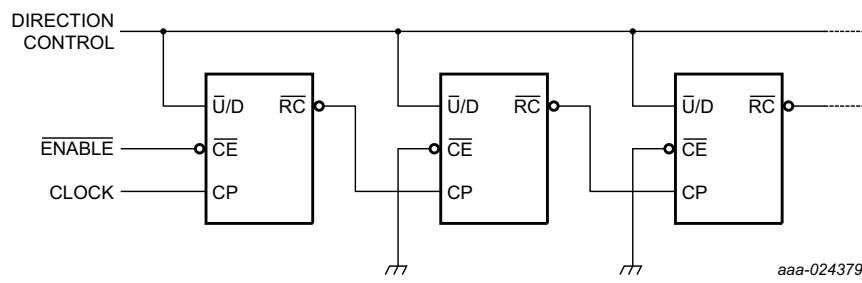
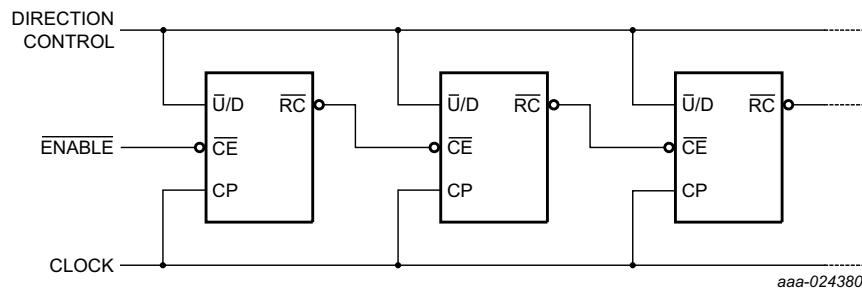
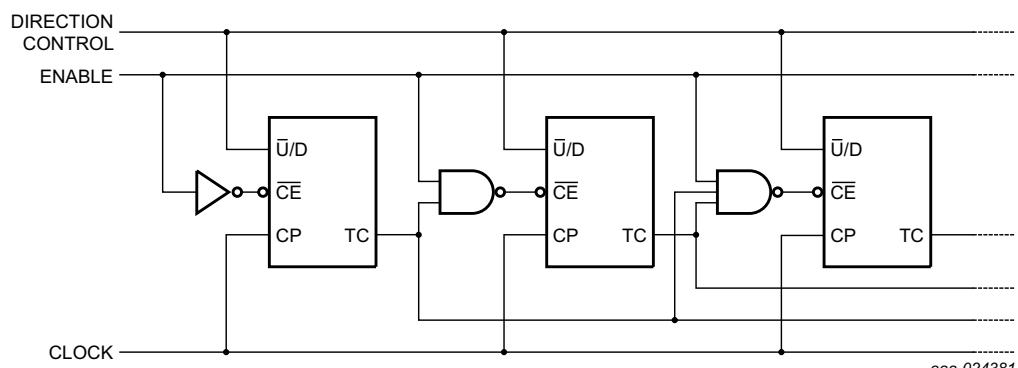

Fig 5. N-stage ripple counter using ripple clock
Fig 6. Synchronous n-stage counter using ripple carry/borrow
Fig 7. Synchronous n-stage counter with parallel gated carry/borrow
The 74HC191 is an asynchronously presettable 4-bit binary up/down counter. It contains four master/slave flip-flops with internal gating and steering logic to provide asynchronous preset and synchronous count-up and count-down operation. Asynchronous parallel load capability permits the counter to be preset to any desired value. Information present on the parallel data inputs (D0 to D3) is loaded into the counter and appears on the outputs when the parallel load (PL) input is LOW. This operation overrides the counting function. Counting is inhibited by a HIGH level on the count enable (CE) input. When CE is LOW internal state changes are initiated synchronously by the LOW-to-HIGH transition of the clock input. The up/down (U/D) input signal determines the direction of counting as indicated in the function table. The CE input may go LOW when the clock is in either state, however, the LOW-to-HIGH CE transition must occur only when the clock is HIGH. Also, the U/D input should be changed only when either CE or CP is HIGH. Overflow/underflow indications are provided by two types of outputs, the terminal count (TC) and ripple clock (RC). The TC output is normally LOW and goes HIGH when a circuit reaches zero in the count-down mode or reaches '15' in the count-up-mode. The TC output will remain HIGH until a state change occurs, either by counting or presetting, or until U/D is changed. Do not use the TC output as a clock signal because it is subject to decoding spikes. The TC signal is used internally to enable the RC output. When TC is HIGH and CE is LOW, the RC output follows the clock pulse (CP). This feature simplifies the design of multistage counters as shown in Figure 5 and Figure 6. In Figure 5, each RC output is used as the clock input to the next higher stage. It is only necessary to inhibit the first stage to prevent counting in all stages, since a HIGH on CE inhibits the RC output pulse. The timing skew between state changes in the first and last stages is represented by the cumulative delay of the clock as it ripples through the preceding stages. This can be a disadvantage of this configuration in some applications. Figure 6 shows a method of causing state changes to occur simultaneously in all stages. The RC outputs propagate the carry/borrow signals in ripple fashion and all clock inputs are driven in parallel. In this configuration the duration of the clock LOW state must be long enough to allow the negative-going edge of the carry/borrow signal to ripple through to the last stage before the clock goes HIGH. Since the RC output of any package goes HIGH shortly after its CP input goes HIGH there is no such restriction on the HIGH-state duration of the clock. In Figure 7, the configuration shown avoids ripple delays and their associated restrictions. Combining the TC signals from all the preceding stages forms the CE input for a given stage. An enable must be included in each carry gate in order to inhibit counting. The TC output of a given stage is not affected by its own CE signal therefore the simple inhibit scheme of Figure 5 and Figure 6 does not apply. Inputs include clamp diodes. This enables the use of current limiting resistors to interface inputs to voltages in excess of VCC.